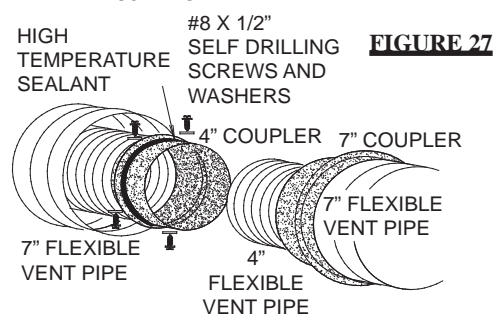

FIGURE 27
8. If more vent pipe needs to be used to reach the fireplace, couple them together as illustrated. The vent system must be supported approximately every 3 feet for both vertical and horizontal runs. Use noncombustible strapping to maintain the minimum 1" clearance to combustibles. Figure 27.